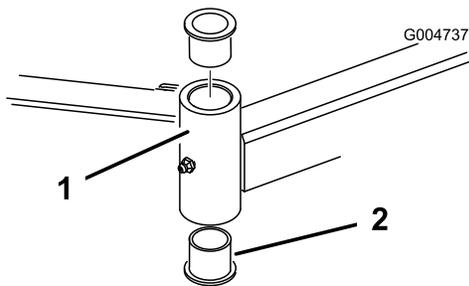

Figure 110
4. Insert a pin punch into the top or bottom of the mounting tube and drive the bushing out of the tube (Figure 110).